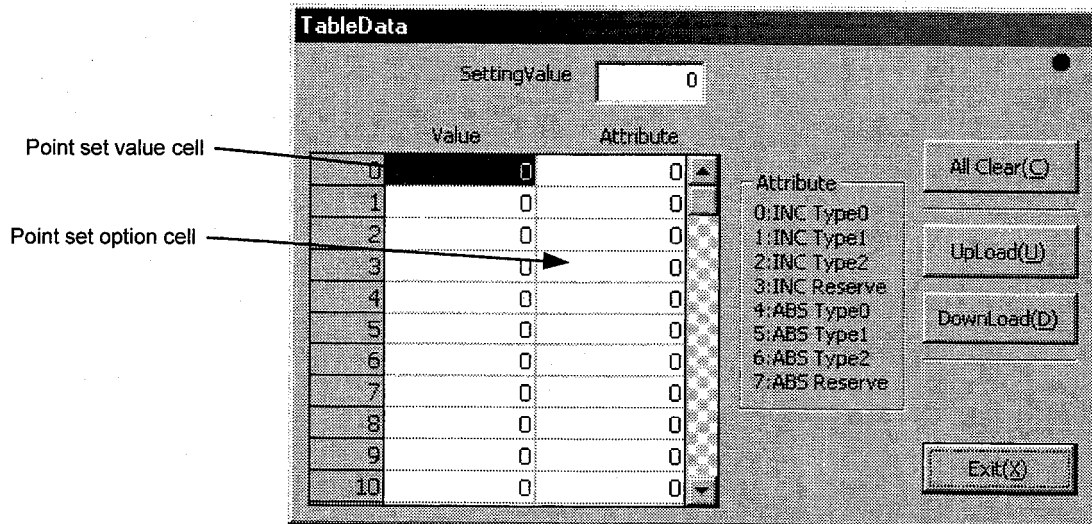

Figure 7.51 “Point Set” dialog box
Click “*Point Set (P)*” under “MainMenu” to display the “Point Set” dialog box (see Figure 7.51.)